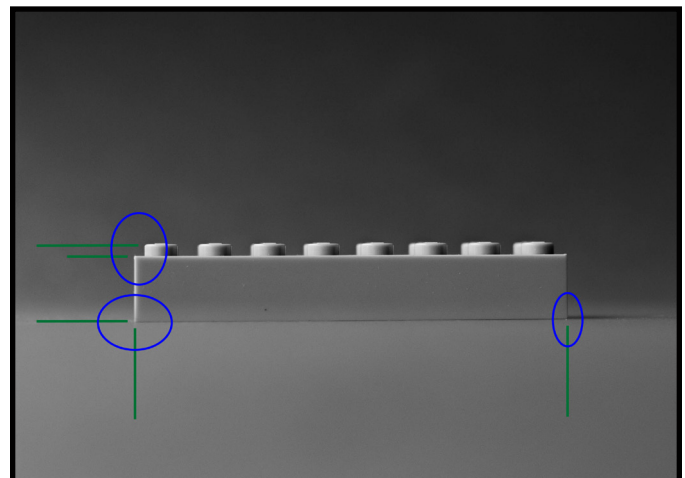

Figure 7.11 - Extension Lines
Let's start by deconstructing the different types of lines that are needed to make a dimension on a drawing. First, we have extension lines that stretch out from what you want to measure on an object, as seen in figure 7.11. These extension lines are typically thin and straight with a small gap between the object and the line itself. Extension lines may cross over each other, but it is good practice to avoid this when possible. A good rule of thumb is to not dimension to hidden lines, so extension lines really should pair up with a visible line in the view. The placement of extension lines dictates the placement of dimension lines, so it is good to pay extra attention when placing these extension lines in a dimensioned drawing (especially by hand).
Step 1 : Using a standard Lego brick, we will show how to place extension lines and dimension lines for the height and the width. When manually creating a dimensioned drawing, start with the placement of extension lines. For the Lego brick in figure 7.11, the extension lines are shown in green with the gap between the object and the line circled in blue. This gap between the object and the extension line is needed so it is clear where the bounds of object are shown by visible lines.